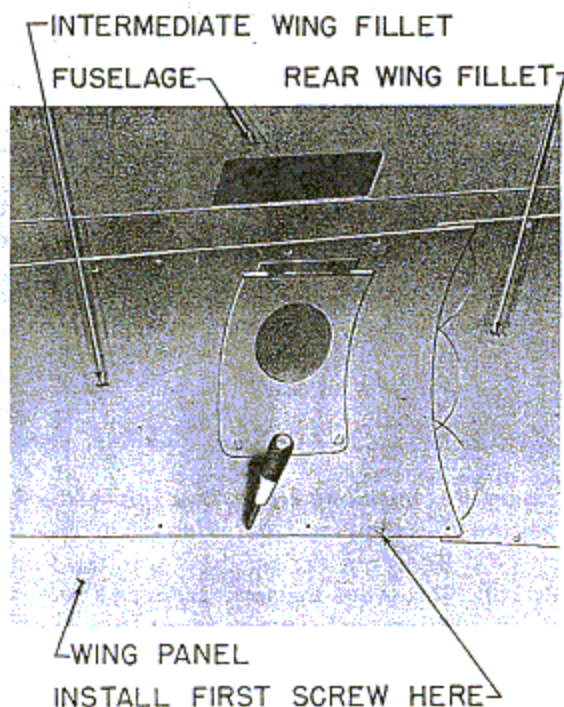

Figure 89—Installing Intermediate Wing Fillet—Step 1
2. Install screws through all fillet holes that line up with the nutplates in the fuselage. (See figure 89.)